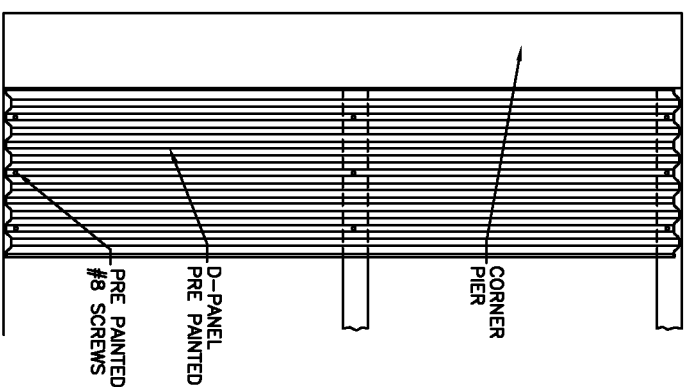

FIGURE 23
START AT ANY CORNER RECEIVING D-PANEL AND ATTACH THE FIRST PANEL (SEE FIGS. 23 & 24). REFER TO PAGE 5 FOR CORRECT PANEL LENGTHS TO USE AS PANEL LENGTH DIFFERS DEPENDING ON LOCATION. PLACE A FOAM RUBBER CLOSURE ON INSIDE OF SHEET AT THE TOP AND BOTTOM ENDS OF THE SHEET, BEFORE ATTACHING FIRST PANEL. CONFIRM PIER IS SQUARE TO FLOOR (USE A 36" CARPENTER SQUARE FOR THIS). ATTACH SHEET WITH (9) PAINTED #8 SCREWS.